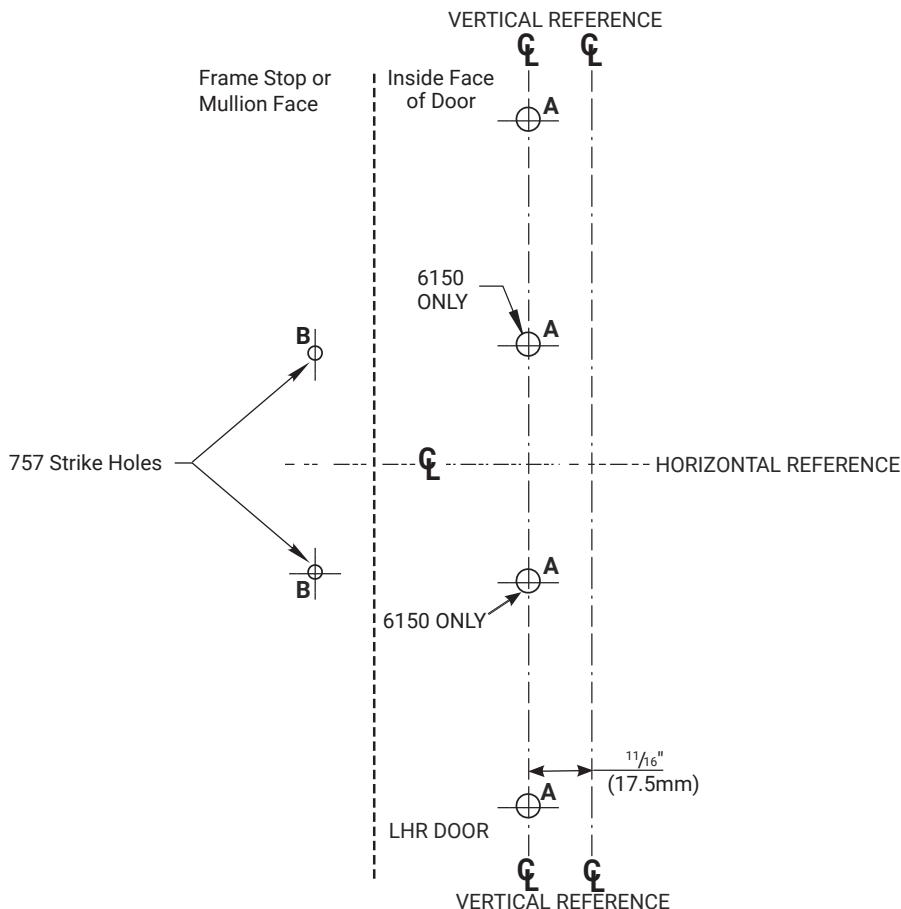

Figure 3-B: Wide Stile LHR Door Device Preparation
Install the template with the door closed, spot and prepare the mounting holes as follows (Figure 3-A):
6. Mark the door and frame per template, as shown in Figure 3-A. Drill and tap only those holes needed for the device/trim being installed.
- Use the template and information provided in Figure 3-B and Table 1 to prepare holes.